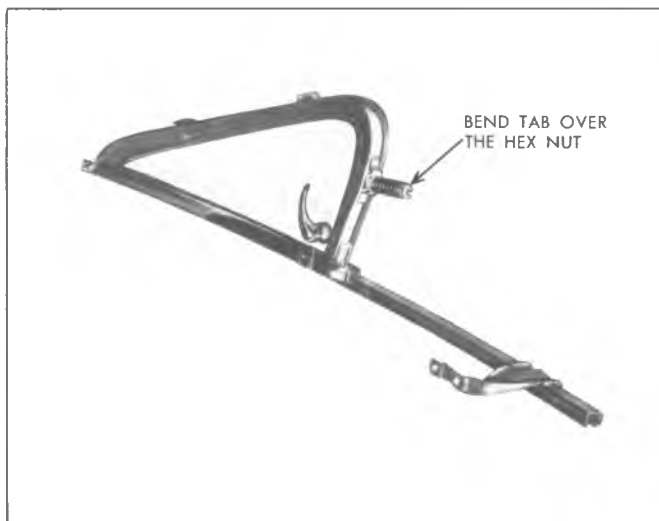

Fig. 29—Bend Tabs Over Hex Nut
2. After making adjustment bend tabs over the hex nut on base of assembly. See figure 29.